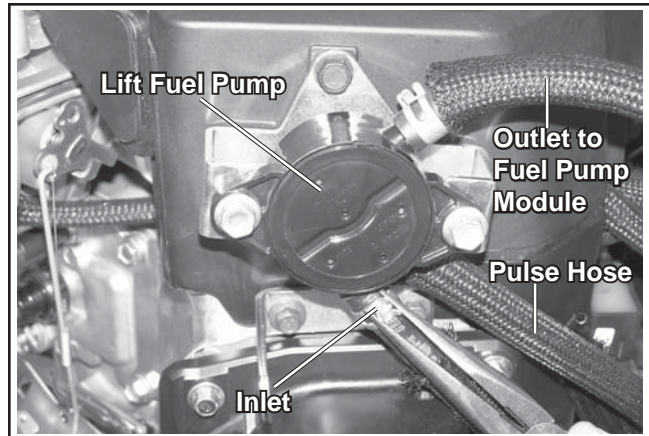

Figure 10-75. Reinstalled Lift Fuel Pump.
2. Install the lift fuel pump to the bracket on the housing using the two hex flange screws. Torque the M6 screws to **7.3 N·m (68 in. lb.)** in new holes or **6.2 N·m (55 in. lb.)** in used holes. See Figure 10-75.
NOTE: Some applications may have two in-line fuel filters. In those applications, connect the in-line 51-75 micron mesh fuel filter and hose to the inlet barb of the lift fuel pump and secure with a spring clamp. The in-line 10 micron EFI paper fuel filter and hose must be connected to the outlet barb of the lift fuel pump and secured with a spring clamp. See Figure 10-75.